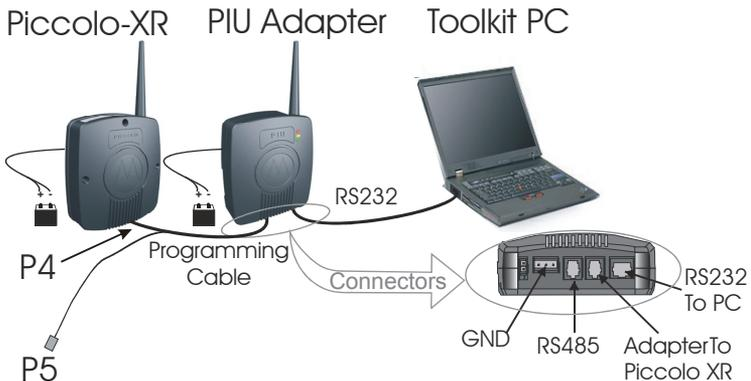

Figure 23
1. Connect the PIU adapter RS232 port to the computer using the FTN6597A cable (see Figure 23).